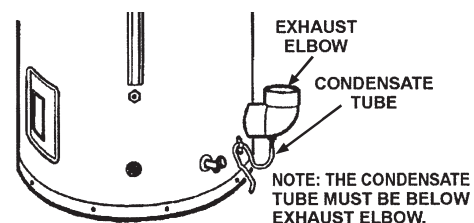

FIGURE 16.
This water heater is a condensing unit and requires a drain to be located in close proximity to allow the condensate to drain safely. The condensate drains from the unit at the exhaust tee located at the bottom of the unit (see figure 16). Condensate from this water heater is mildly acidic. Please note that some local codes require that condensate is treated by using a pH neutralizing filter prior to disposal.
**CONDENSATION WARNING: THIS WATER HEATER IS A CONDENSING UNIT AND REQUIRES A DRAIN TO BE LOCATED IN CLOSE PROXIMITY TO ALLOW CONDENSATE TO DRAIN SAFELY. THE CONDENSATE DRAINS FROM UNIT AT THE EXHAUST ELBOW LOCATED AT BOTTOM OF UNIT. NOTE: IT IS IMPORTANT THAT THE CONDENSATE HOSE NOT BE ELEVATED ABOVE THE EXHAUST ELBOW, SEE FIGURE 16. CONDENSATE BUILD-UP WILL BLOCK THE EXHAUST OUTLET, WHICH WILL CAUSE IMPROPER OPERATION.**